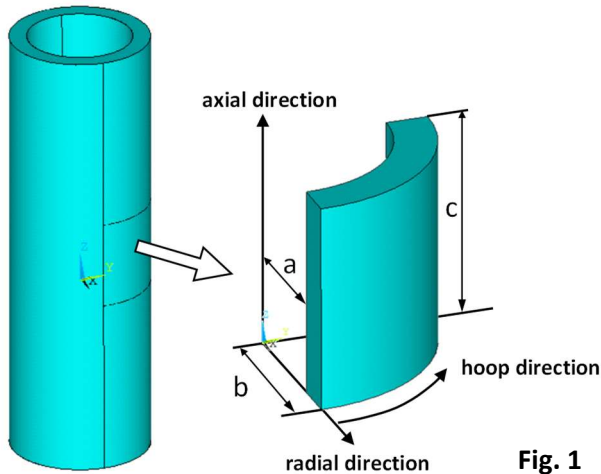

Fig. 1
1. Geometry of a quarter of the thick walled pipe model (Fig. 1).